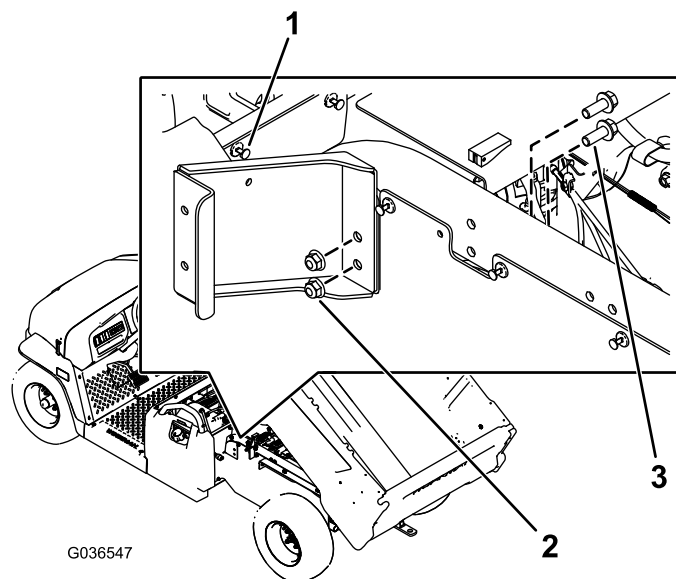

Figure 1
- A. Remove the rivet from left panel behind the rear seat base (Figure 1).
- B. Install the left loop bracket using 2 hex-flange bolts (3/8 x 1 inch) and 2 nuts (3/8 inch) as shown in Figure 1.